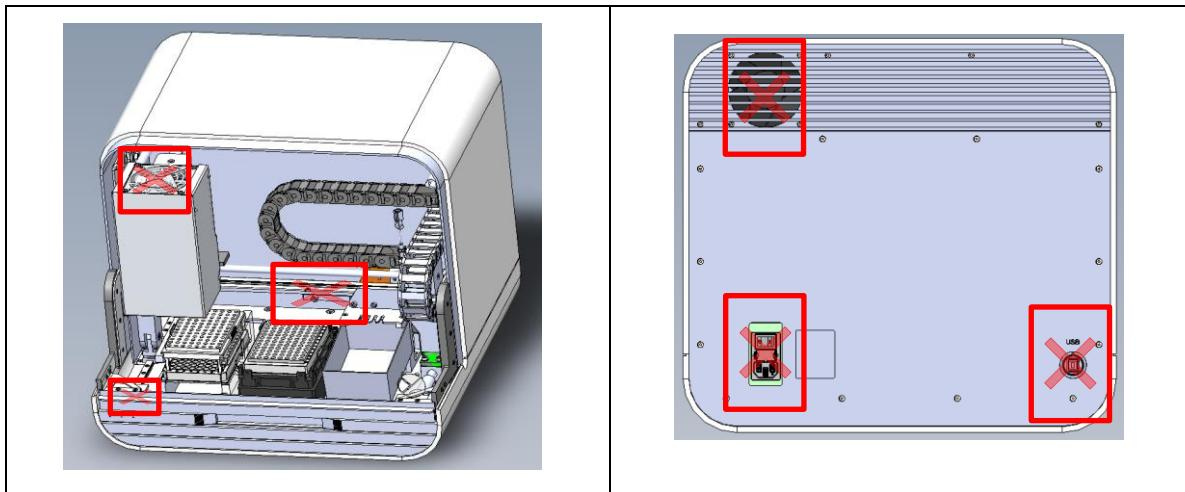
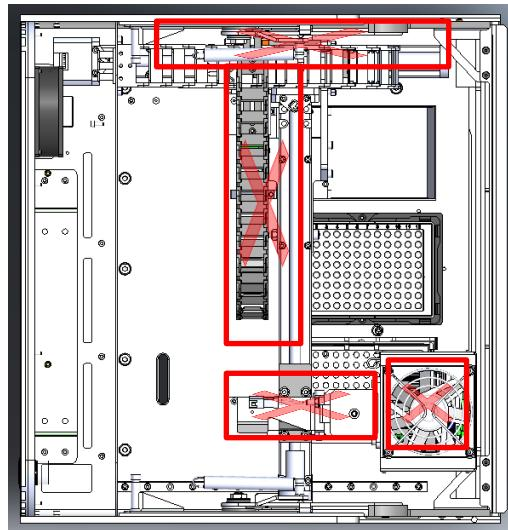

Figure 12. Open front view and back view of WHITE FOx with indications of the area where liquid must be avoided (electrical and moveable parts).
Figure 13. Top view of WHITE FOx mechanical layout with indications of the area where liquid must be avoided: the electrical and moveable parts.
Inner and outer surfaces can be cleaned using a damp cloth with mild soap solution and water or 70 % ethanol or another alcohol-based disinfectant. Be careful not to excessively spill cleaning liquid on the inside of WHITE FOx and power supply inlet. Avoid cleaning of moveable parts. Do not use liquids to clean the top of the optical measuring head or the area of the power supply inlet. Avoid the use of dry raw paper to clean or dry the equipment to avoid scratches on the surfaces. Figure 12 & Figure 13 indicate the areas where contact with liquids must be avoided. Do not use other cleaning solutions.
2. Clean all surfaces (except the optical head and the power supply inlet as indicated in Figure 12.), with a soft cloth which has been soaked in disinfecting solution, e.g., 70% ethanol or isopropanol.